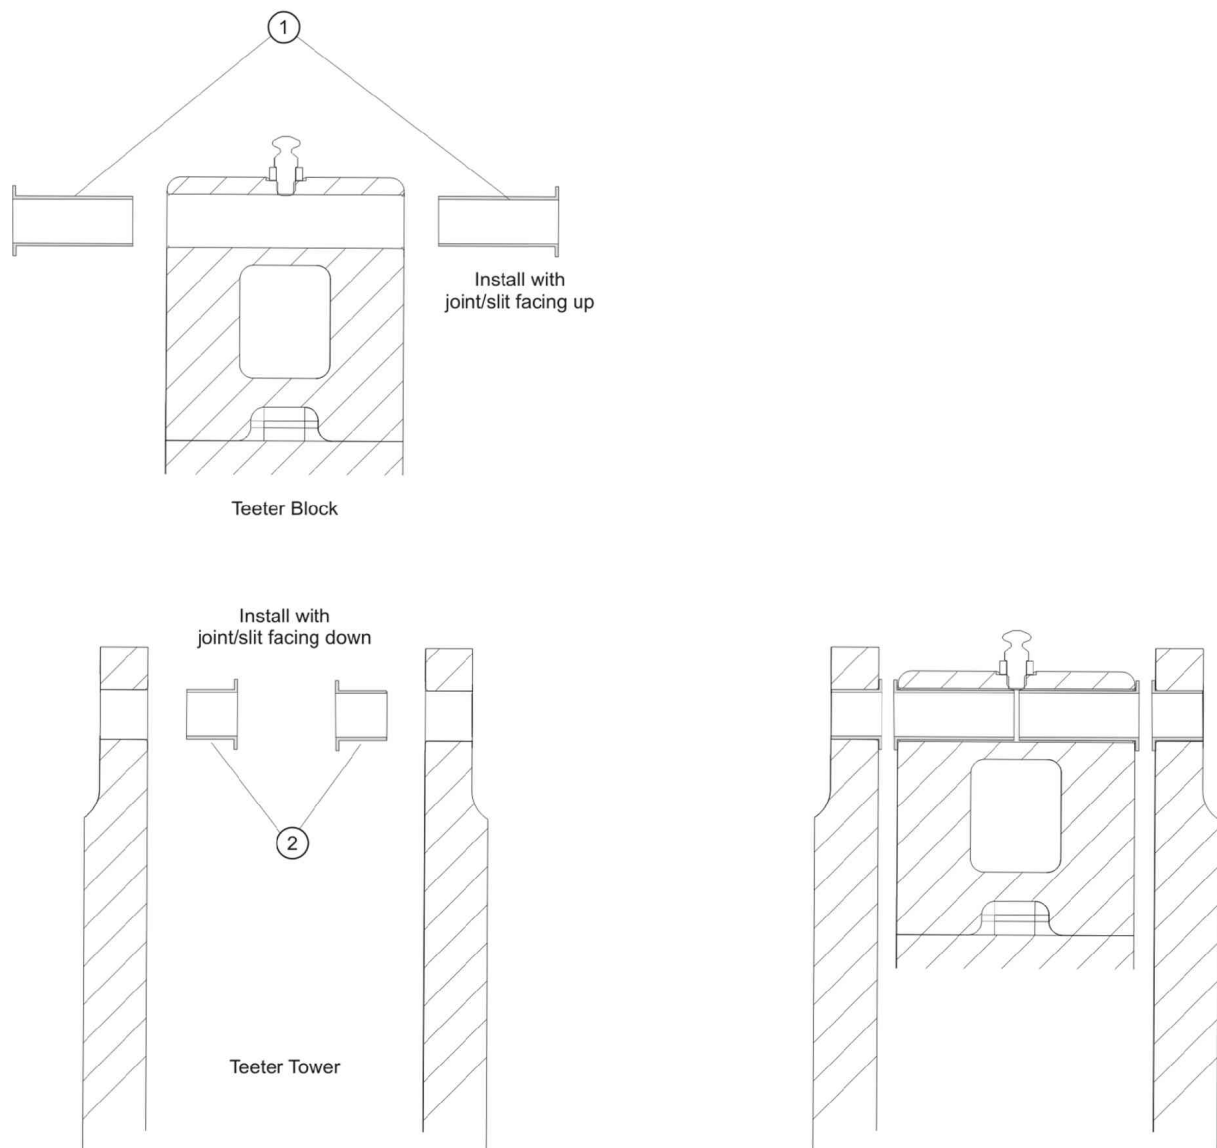

Fig. 1 - Teeter bushings, block and tower
- 8 Inspect bushings in teeter block and teeter tower for correct seating (see Fig. 1 for positions of slits) and secure installation (must not be possible to turn by hand). Otherwise, bushings must be replaced, see 62-11-00 8-1.